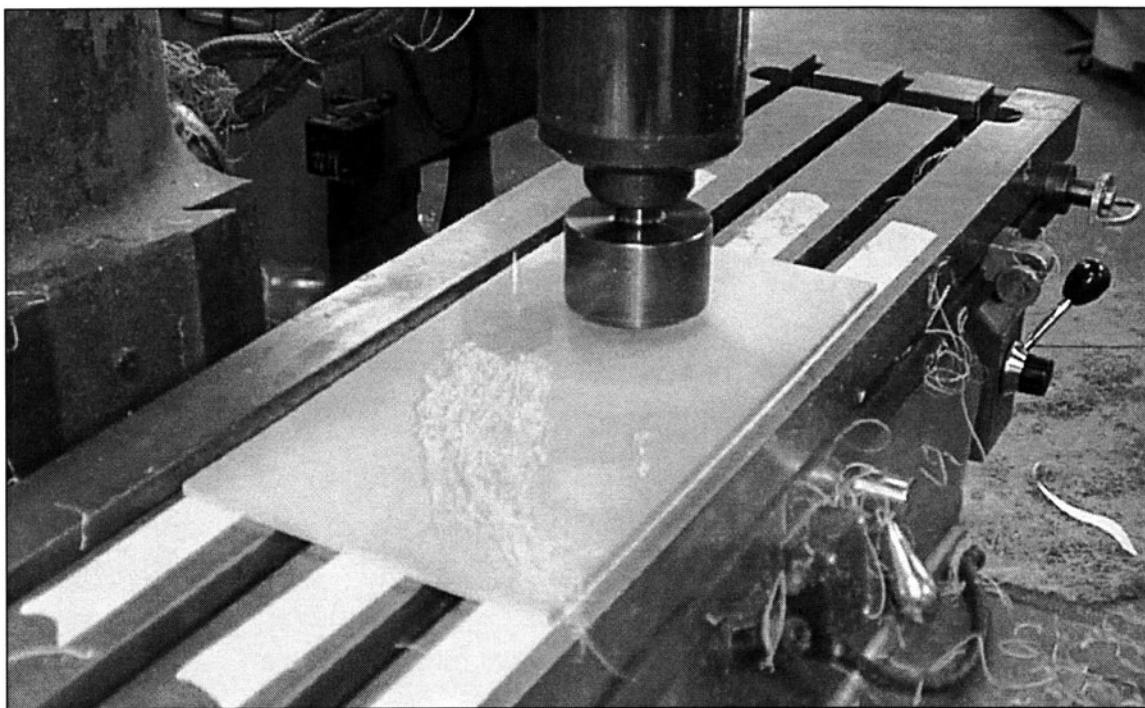

FIGURE 3-10 Double sticky tape is an effective way to hold thin sheet stock for fly cutting.
14. Use double sticky tape to hold down thin sheet parts for machining. (See Fig. 3-10)